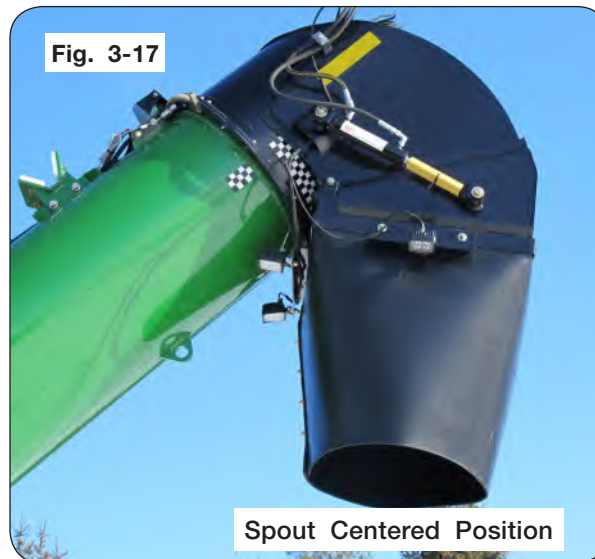

Fig. 3-17
7. After PTO has come to a complete stop, align the checkered flag decals to locate center as shown in FIG. 3-17.